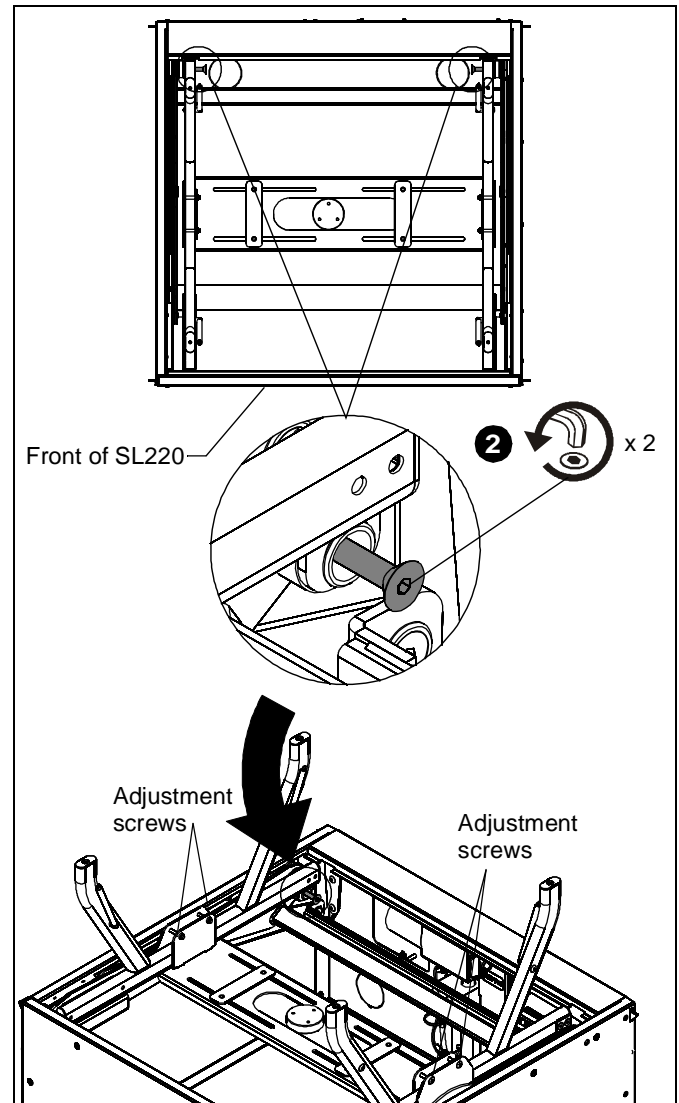

Figure 13
2. Loosen the screws in the linkage on each side of projector cradle at rear of SL220. (See Figure 13)
4. The forward/aft adjustment screws may need to be loosened for this. If so, loosen the screws, but do NOT remove the screws. (See Figure 13)